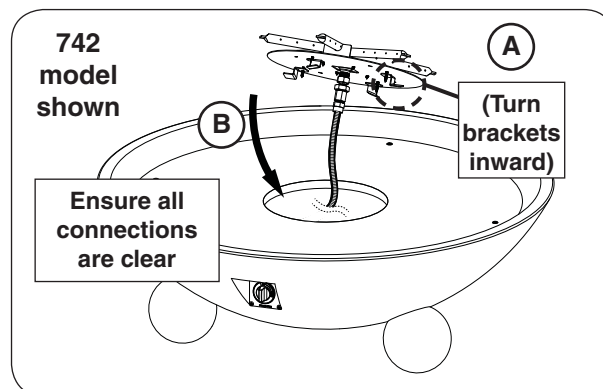

Fig. 26-2 Insert burner assembly (if applicable)
1. Ensure that the four burner brackets are turned inward, then insert the burner assembly (see Fig. 26-2, A-B).